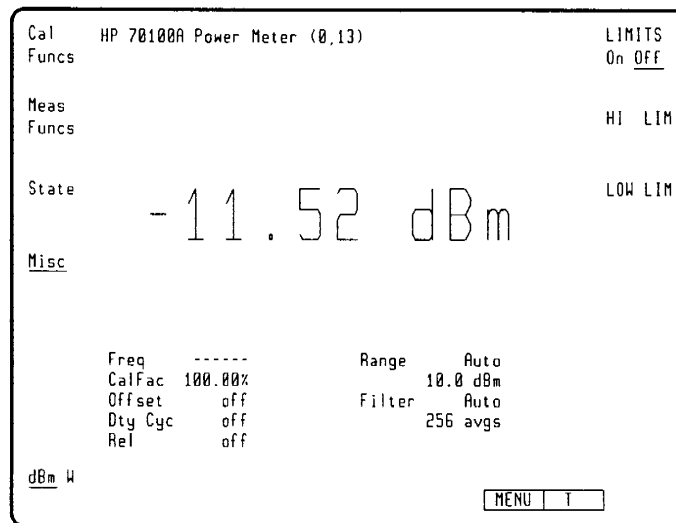

Figure 6-19. Limits Menu
limits accesses another menu, see Figure 6-19, that is used to set the upper and lower limits of the Power Meter.
1. Press **limits**. The menu will be as shown in Figure 6-19.